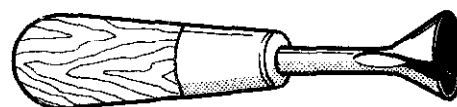

Fig. 12-42 Dowel pointer.
5. Point the dowels at each end with a dowel pointer, figure 12-42. This assures alignment of the dowel with the hole as it is fitted into place.